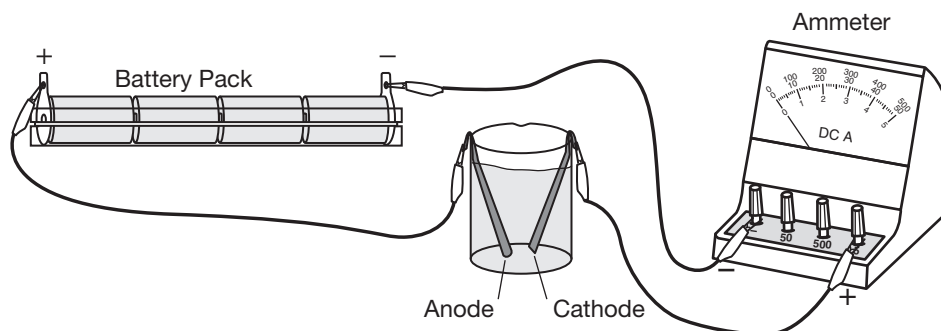

Figure 4. Electroplating Apparatus.
7. Obtain about 80 mL of 1 M copper(II) sulfate in a 150-mL beaker and place the two copper electrodes upright in the beaker. Be sure that the electrodes do not touch each other.
8. Set up the electroplating apparatus (Figure 4): Using alligator clips, connect the anode to the positive lead on the battery pack, and the cathode to the positive lead on the ammeter.